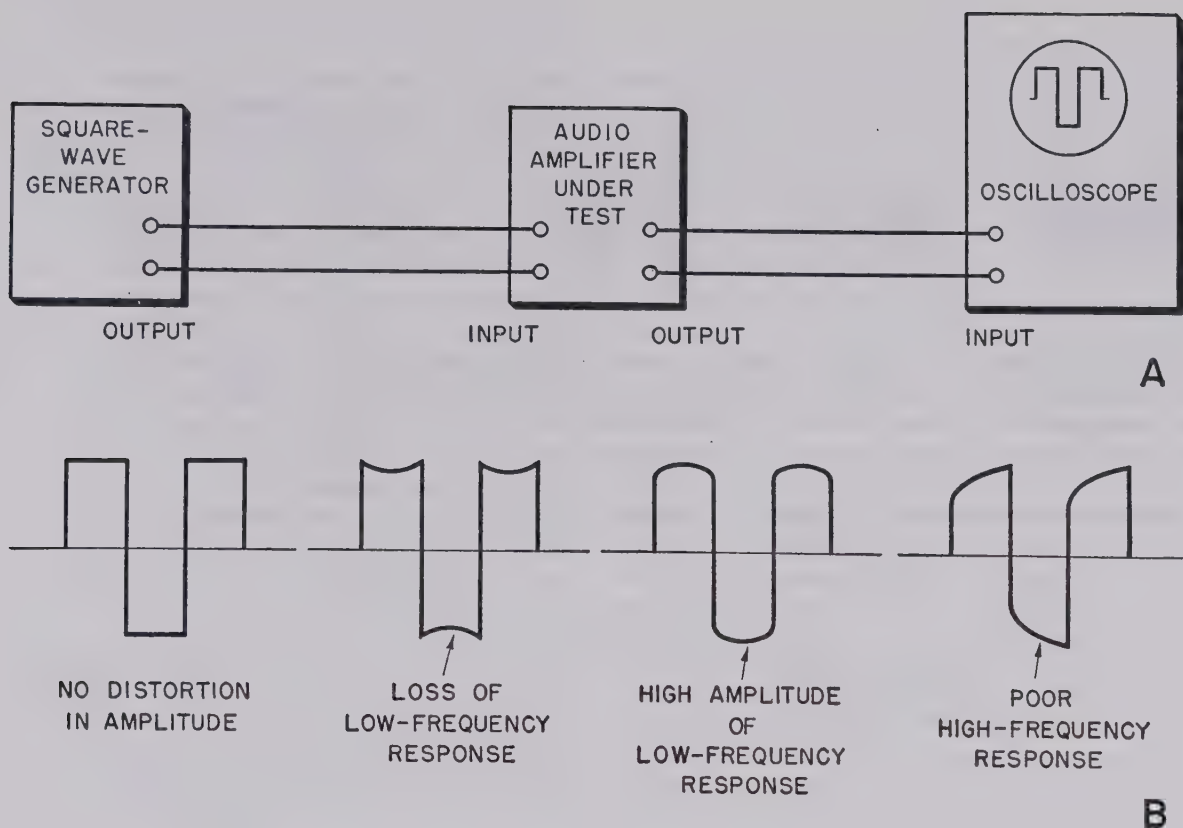

Figure 7. Square-wave testing amplifiers.
- (2) To check the frequency response of an amplifier, the square waves are fed to the amplifier input and an oscilloscope is attached to the amplifier output. The method of connection and the various output waveshapes that can result for different frequency responses are shown in figure 7.